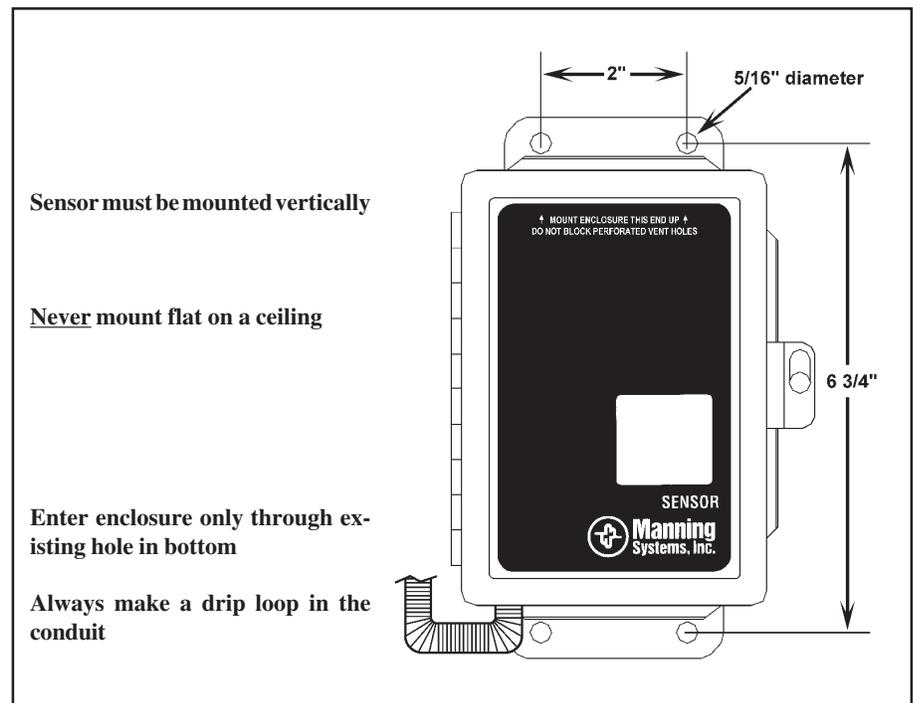

Figure 1: Mounting dimensions for the EC-F2 Sensor
**Other Locations:** When mounting EC sensors in locations such as roof top air units, duct-work, attic spaces, makeup air intakes, etc., contact Manning Systems for application assistance and recommendations. Figure 1 presents mounting dimensions for the EC-F2 Sensor.
Mount sensor enclosures through the flange holes as shown in Figure 1, and always mount vertically.